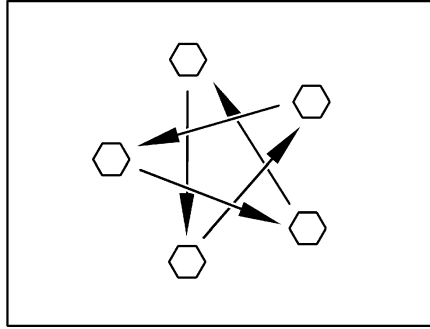

Fig. 404 Tighten the wheel nuts or wheel bolts cross-wise
- Check regularly that the wheel nuts or wheel bolts are firmly seated. Re-tighten the wheel nuts or wheel bolts of a changed wheel cross-wise (Fig. 404) after 50 km (30 miles).
- ▶ Tighten the wheel nuts or wheel bolts cross-wise (Fig. 404).